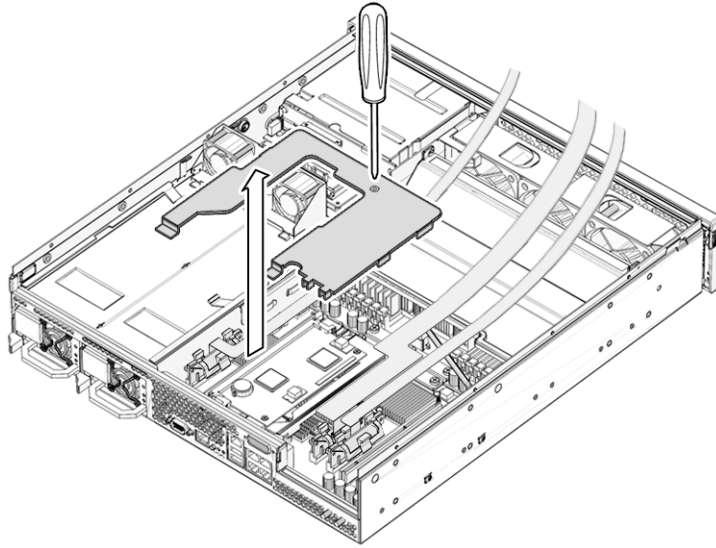

FIGURE 2-6 Removing the U-Plate
3. If installed, remove the two screws that hold the U-plate in position, and lift the U-plate off (FIGURE 2-6).